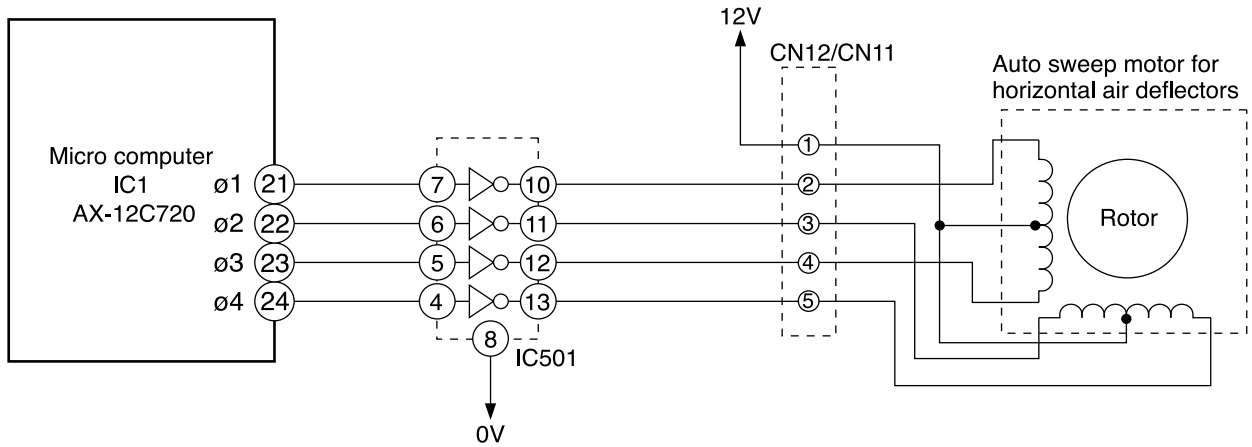

Fig. 5-1 Auto Sweep Motor Circuit (Horizontal air deflectors only)
- Fig. 5-1 shows the Auto sweep motor drive circuit; the signals shown in Fig. 5-2 are output from pins 21–24 of the micro computer.